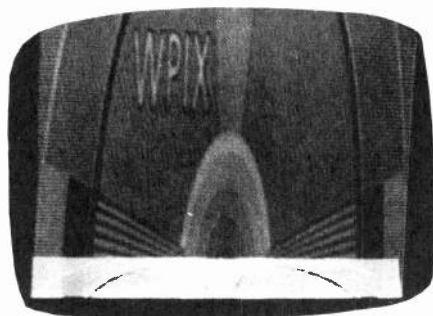

Fig. 6-F. Photo shows vertical foldover.
**SYMPTOMS:** Foldover at top or bottom of pix. See Fig. 6-F.